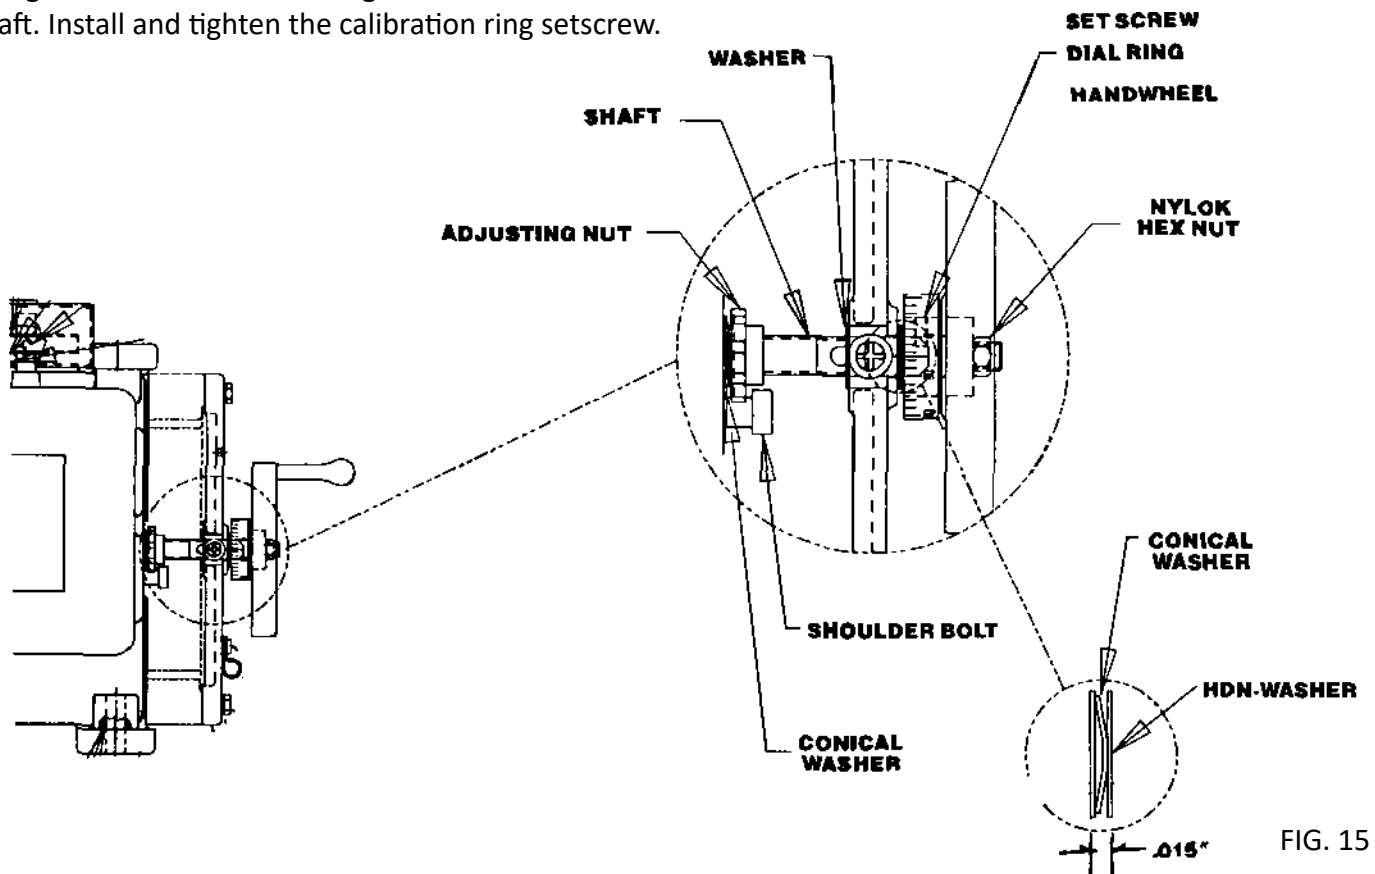

FIG. 15
- C. Verify that the gap between the wave washer and flat washer is .015 in. [.04mm]. See FIG 15. Adjust the hex lock nut if necessary.